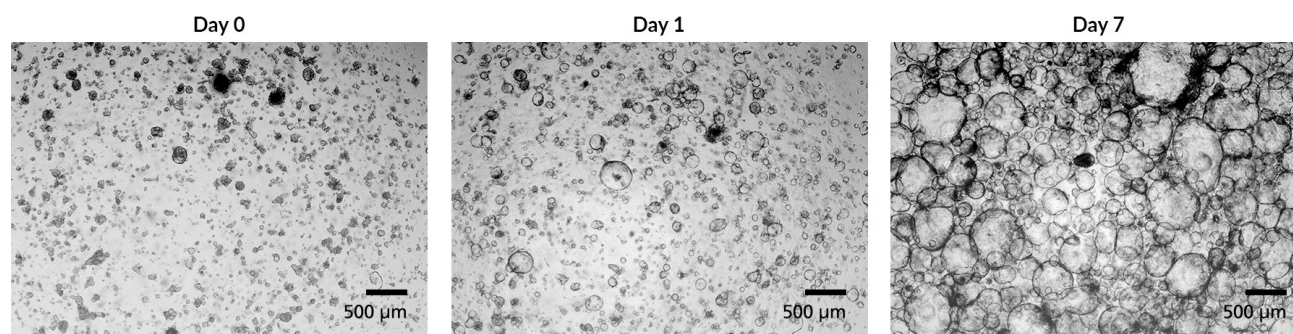

Figure 3. Expansion of hPSC-Derived Hepatic Organoids. Organoids are ready to passage when they resemble organoids shown on day 7.
17. Organoids will be ready to passage after approximately 1 week. Refer to Figure 3 for representative organoid morphology images.